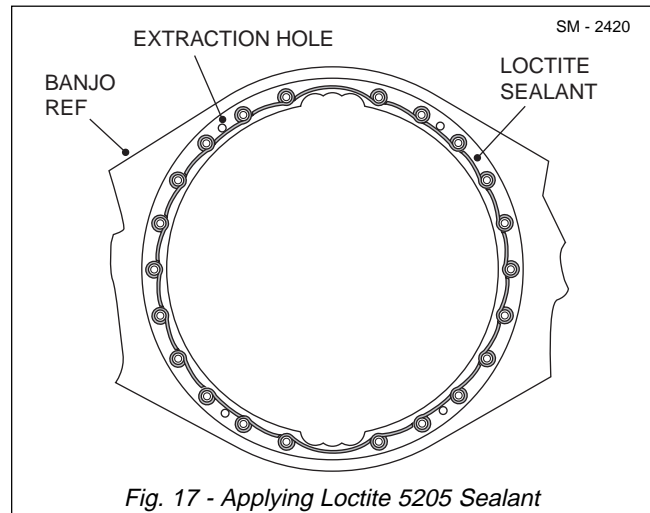

Fig. 17 - Applying Loctite 5205 Sealant
3. Clean mating surfaces of the banjo and differential assembly with a Loctite 7063 cleaning agent to remove dirt, oil, grease, or other foreign matter. Leave cleaned surfaces to dry. Apply Loctite 5205 sealant to the banjo mounting face in a 3 to 5 mm (0.12 to 0.19 in) diameter bead, ensuring that all stud holes are encircled and each circle is connected to the one on either side (the loop between the studs will be on the inside of any extraction holes). Refer to Fig. 17.